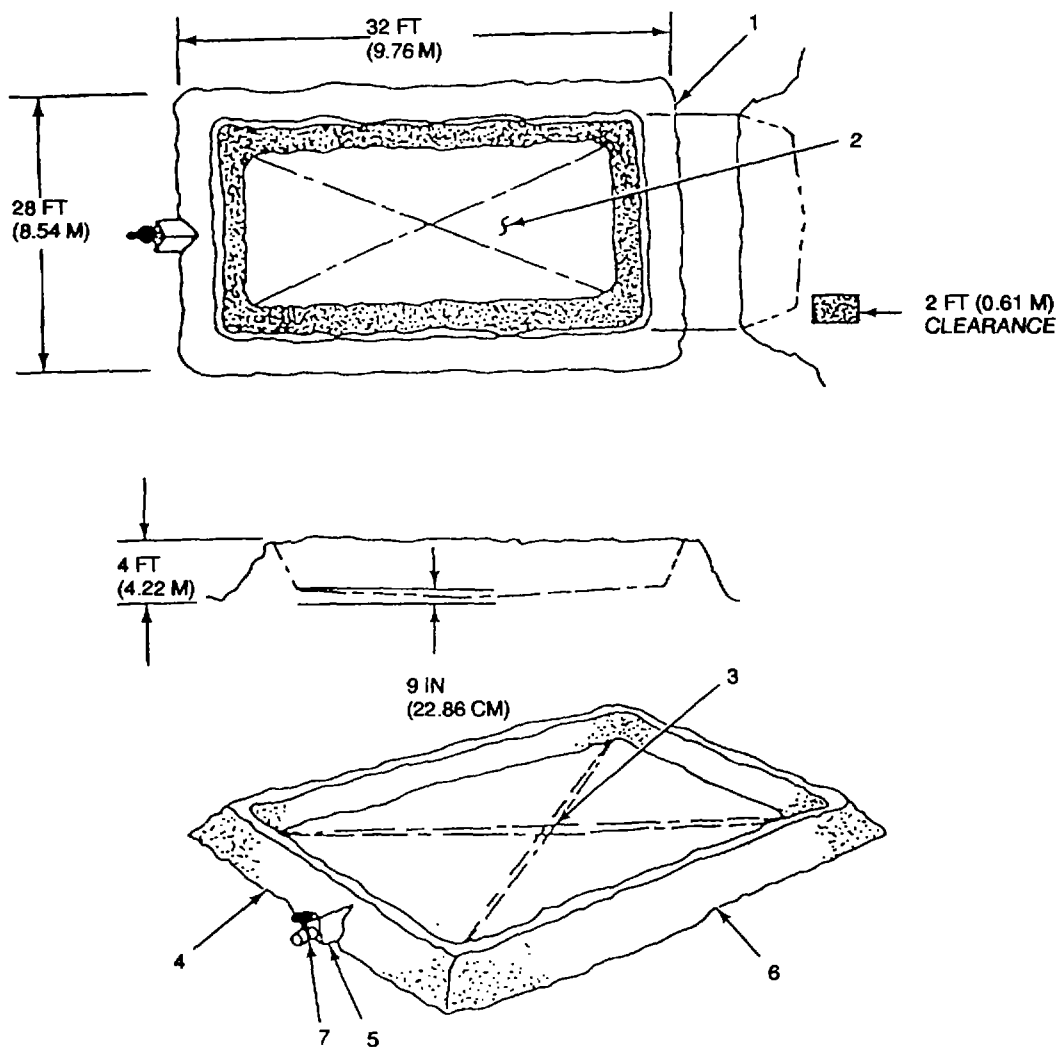

Figure 2-18. Storage Tank Location Preparation
- (11) Install pressure-relief valve assembly (16) to 6-inch check valve (14) with 6-inch boltless coupling (17) (para. 2-8.b.).
- (12) Connect 6 in. X 20 ft discharge hose (18) to pressure-relief valve assembly (16) with 6-inch boltless coupling (19) (para 2-8.b.).
- (13) Install butterfly valve (20) to 6 in. X 20 ft discharge hose (18) with 6-inch boltless coupling (21). Set valve to closed position.
- (14) Install lateral grooved wye-fitting (22) to 6-inch butterfly valve (20) with 6-inch boltless coupling (23).
- (15) Connect other end of 6 in. X 75 ft discharge hose (11) to lateral grooved wye-fitting (22) with 6-inch boltless coupling (24) (para. 2-8.b.).
- (16) Connect lateral groove wye-fitting (22) to 10-mile segment collapsible hose (25) with 6-inch boltless coupling (26) (para. 2-8.b.).
- (17) Restrain hose manually until first 50 ft (15 m) of hose is in position. After 50 ft (15 m) of hose is in position, the weight of the hose will hold line in place.
- j. Assemble Storage Assemblies. Perform the following (Figure 2-18):